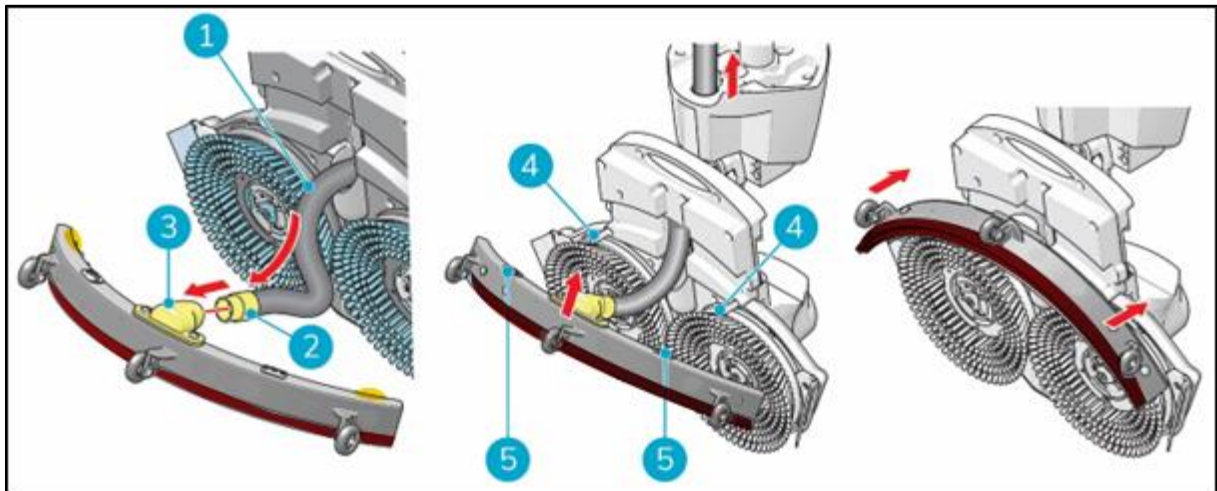

Figure 11
1. Take the vacuum hose (Figure 11, pos 1).
2. Insert the hose connector (Figure 11, pos 2) in the squeegee (Figure 11, pos 3).
3. Twist the hose connector 1/4 turn for a firm fit (Figure 11, pos 2).
6. Align the pins on the scrub deck (Figure 11, pos 4) with the holes on the squeegee (Figure 11, pos 5).